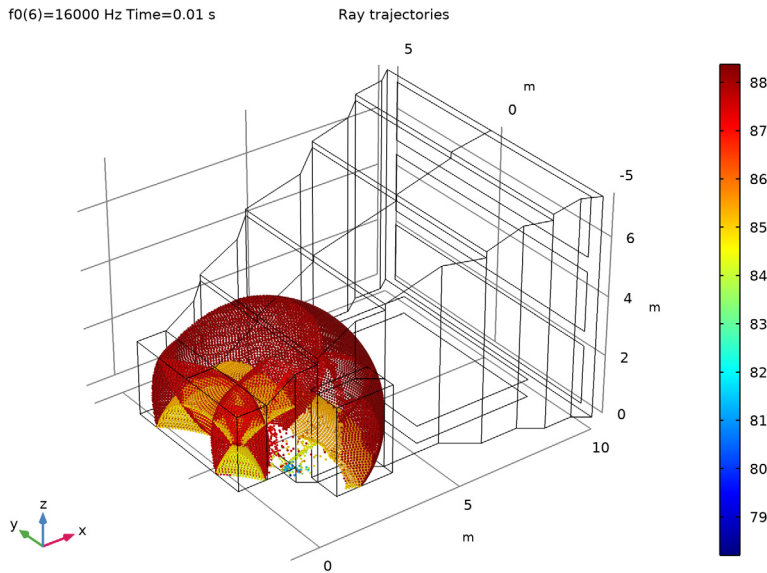
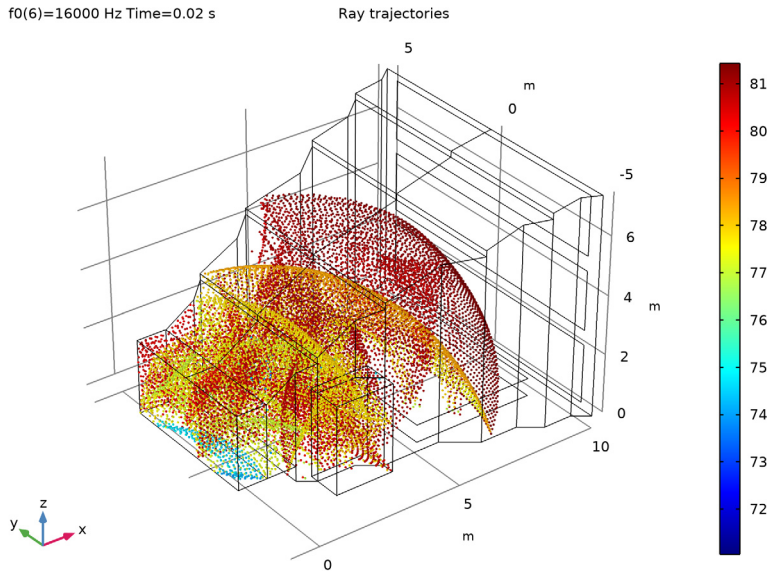

Figure 2: Ray location and SPL after 10 ms.
Figure 3: Ray location and field SPL after 20 ms.
The local wavefront sound pressure level (SPL) is depicted in Figure 2 after 10 ms and in Figure 3 after 20 ms propagation for the 16 kHz frequency band. At this frequency the volume attenuation is the largest. When the compute intensity option is selected in the *Ray Acoustics* interface, wavefront curvature, intensity, and SPL is calculated along each ray. They allow visualization of the (spatially) local acoustic properties. However, it is the acoustic power transported by each ray that is important when calculating the impulse response (IR) and when visualizing the sound pressure level at surfaces. This means that the compute power option should always be selected for IR computation, while the compute intensity can be turned off. Only selecting **Compute power** will also make the model run slightly faster and reduce the number of degrees of freedom (DOFs) solved for. The **Count reflections** option is also necessary when analyzing the IR.